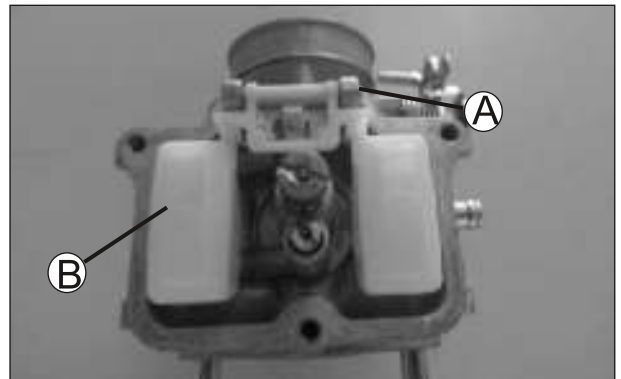

Fig. 4.23
- Remove the float pin (A) and take out the float assembly (B) along with needle valve assembly.(Fig. 4.23)